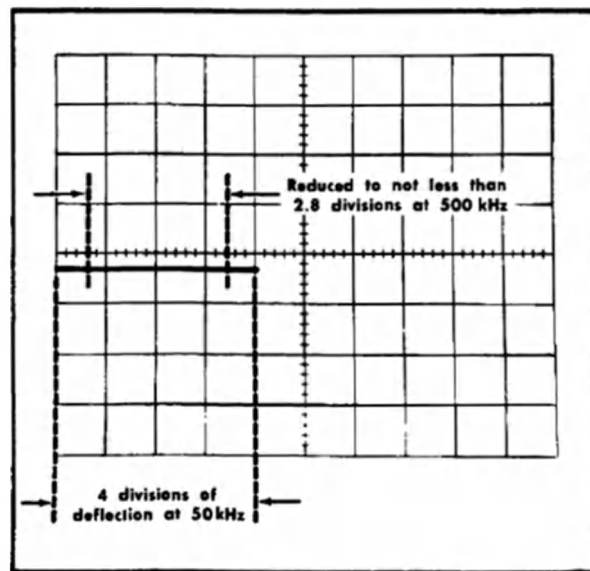

Fig. 5-19. Typical CRT display when checking external horizontal frequency response.
- Without changing the output amplitude, increase the output frequency of the constant-amplitude generator until the display is reduced to 2.8 divisions (-3 dB point; see Fig. 5-19).